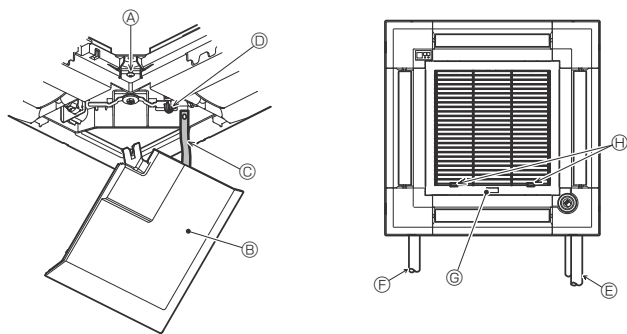

Fig. 7-12
7.5. Installing the intake grille (Fig. 7-12)